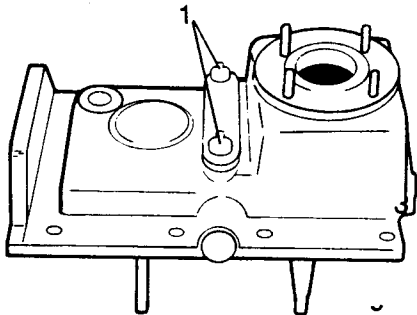

Fig H1.116
- (2) Refer to Fig H1.116. Remove the upper plate fixings and release the plate.